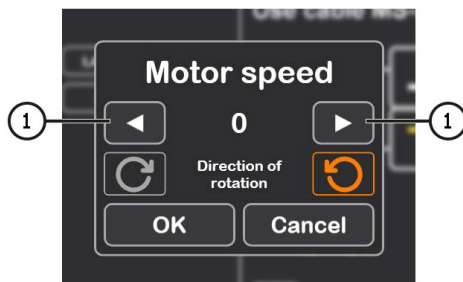

Figure 26
- 3.1. After activating the diagnostics mode, a preliminary alternator check window will open, see Figure 26.
3.2. Using the alternator drive control buttons (see item 1 in Figure 26), set the speed of the alternator pulley rotation within the range of 100 to 150 rpm.
4. Before activating the diagnostic mode, a preliminary alternator check window will open, see Fig. 26.
4. After clicking the "Automatic test" button, a preliminary alternator check window will appear, see Figure 26.
- 4.1. Using the alternator drive control buttons (see item 1 in Figure 26), set the speed of the alternator pulley rotation within the range of 100 to 150 rpm.
3. Before activating the diagnostic mode, a preliminary alternator check window will appear, see Figure 26.
- 3.1. Using the alternator drive control buttons (see position 1 in Figure 26), set the alternator pulley rotation speed within the range of 100 to 150 rpm.